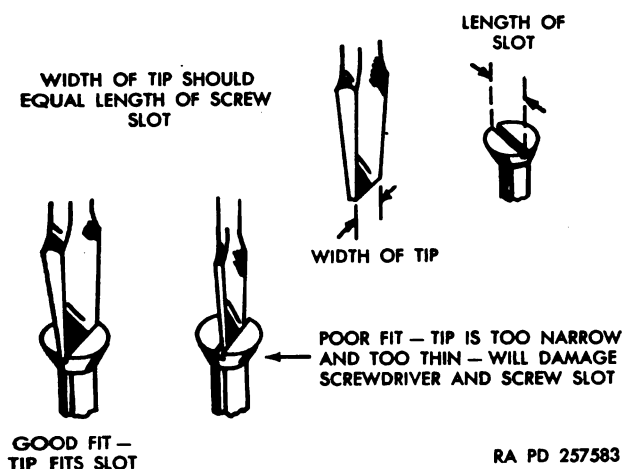
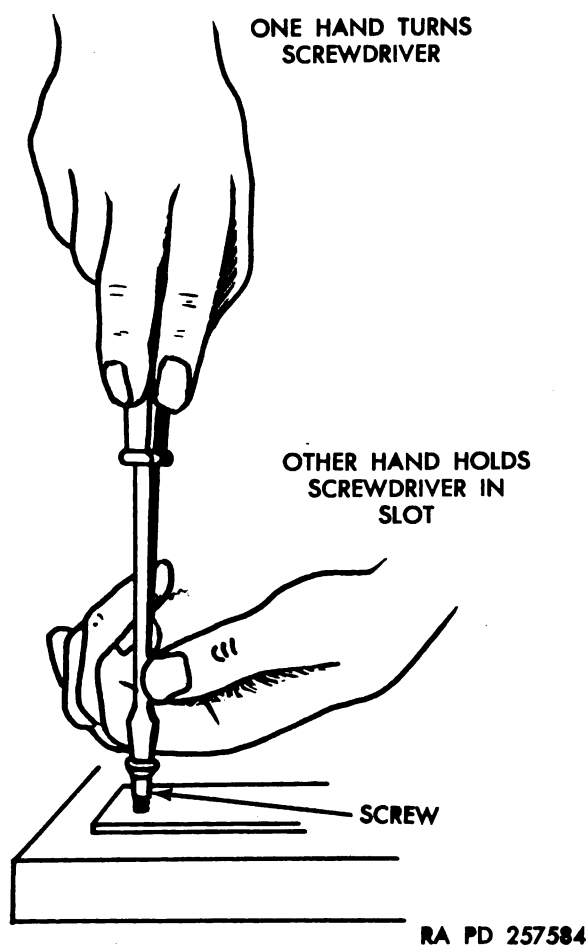

Figure 113. Proper blade for specific screw.
Figure 114. Holding screwdriver properly.
a. Driving Screws. Use the longest screwdriver available which is convenient for the work. The width of the tip should equal the length of the screw slot and the tip must be thick enough to fit the width of the screw slot (fig. 113). Hold the handle firmly in one hand with the head of the handle against the palm and grasp the handle near the ferrule with your thumb and fingers (fig. 114). Hold the screwdriver in line with the axis of the screw and center the tip in the screw slot. To drive screw in, press down with your palm and turn the screwdriver clockwise (to the right). When taking a fresh grip on the handle, steady the tip and keep it pressed in the screw slot with your other hand. Relax your other hand when you are ready to turn the screwdriver again. To drive screws easier, rub a little soap into the threads of a wood screw and put a drop of oil or a little graphite on a machine screw. Doing this will also minimize the chances of rust forming on the screws and will make them easier to remove.